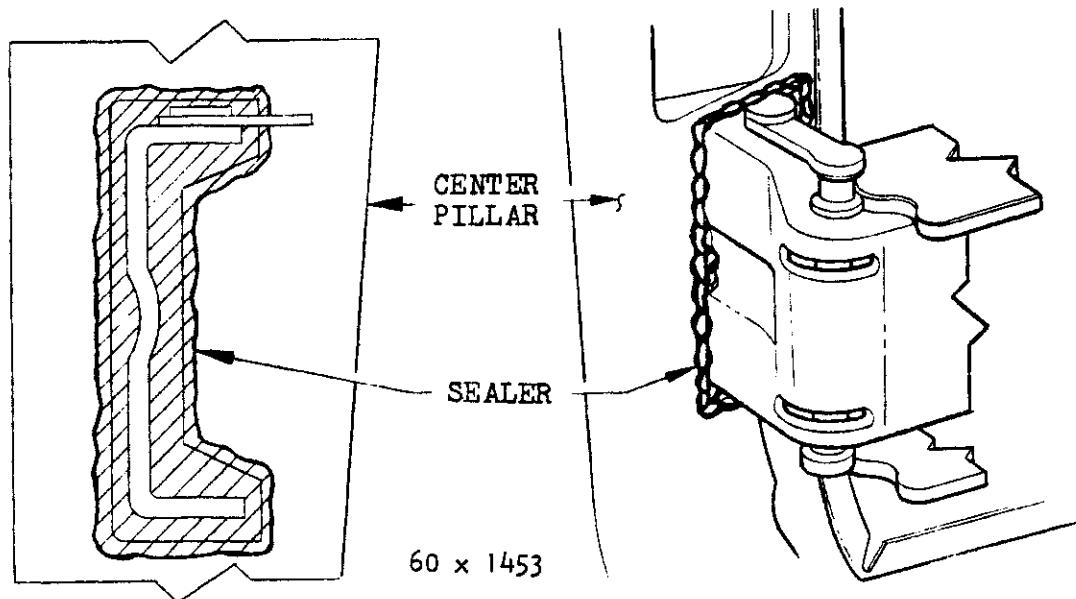

Fig. 79—Rear Door Hinge Sealing
**d. Door Hinges at Center Pillar (Fig. 79)**